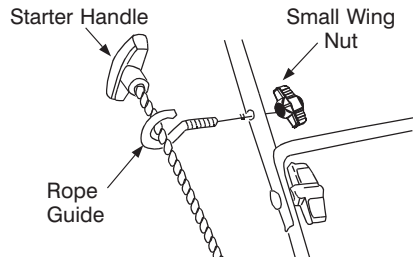

Figure 5
- Secure with small wing nut. See Figure 5.